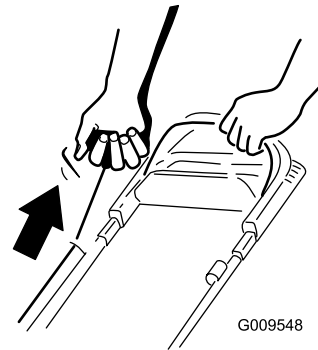

Figure 19
2. Pull the recoil-start handle (Figure 19).
Note: When you pull the recoil-start handle, pull it lightly until you feel resistance, then pull it sharply (Figure 19). Allow the rope to return to the handle slowly.